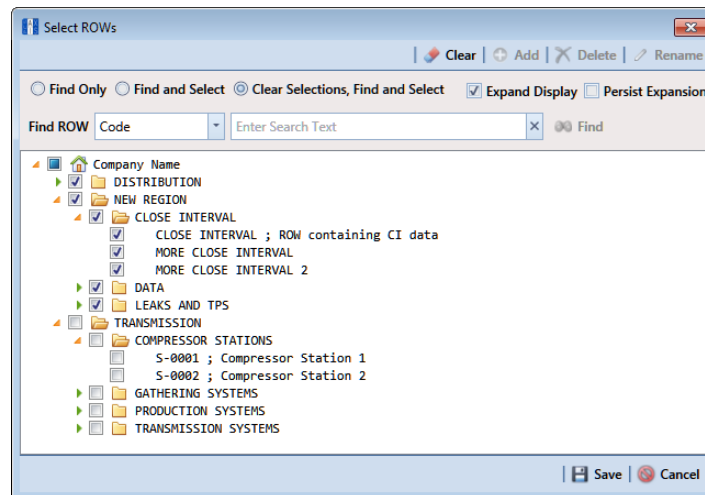

Figure 16-43. Select ROWs
- 1 Select one or more pipeline segments in the *Select ROWs* window (Figure 16-43). Click  **Save** to close the window.